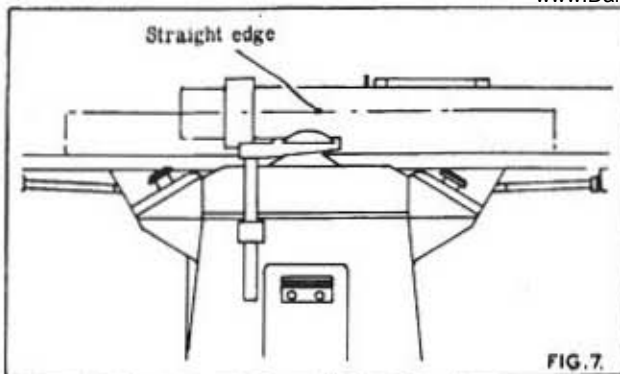

FIG. 7.
9. To check the setting of the knives, raise the back planing or 1/16in. above the outer surface of the cutterblock. Place a straight edge on the table as shown in FIG. 7 and rotate the cutterblock by hand until the knife just touches the straight. Repeat this check in various positions over the width of the table to ensure the knife is parallel. Repeat this procedure for all knives.